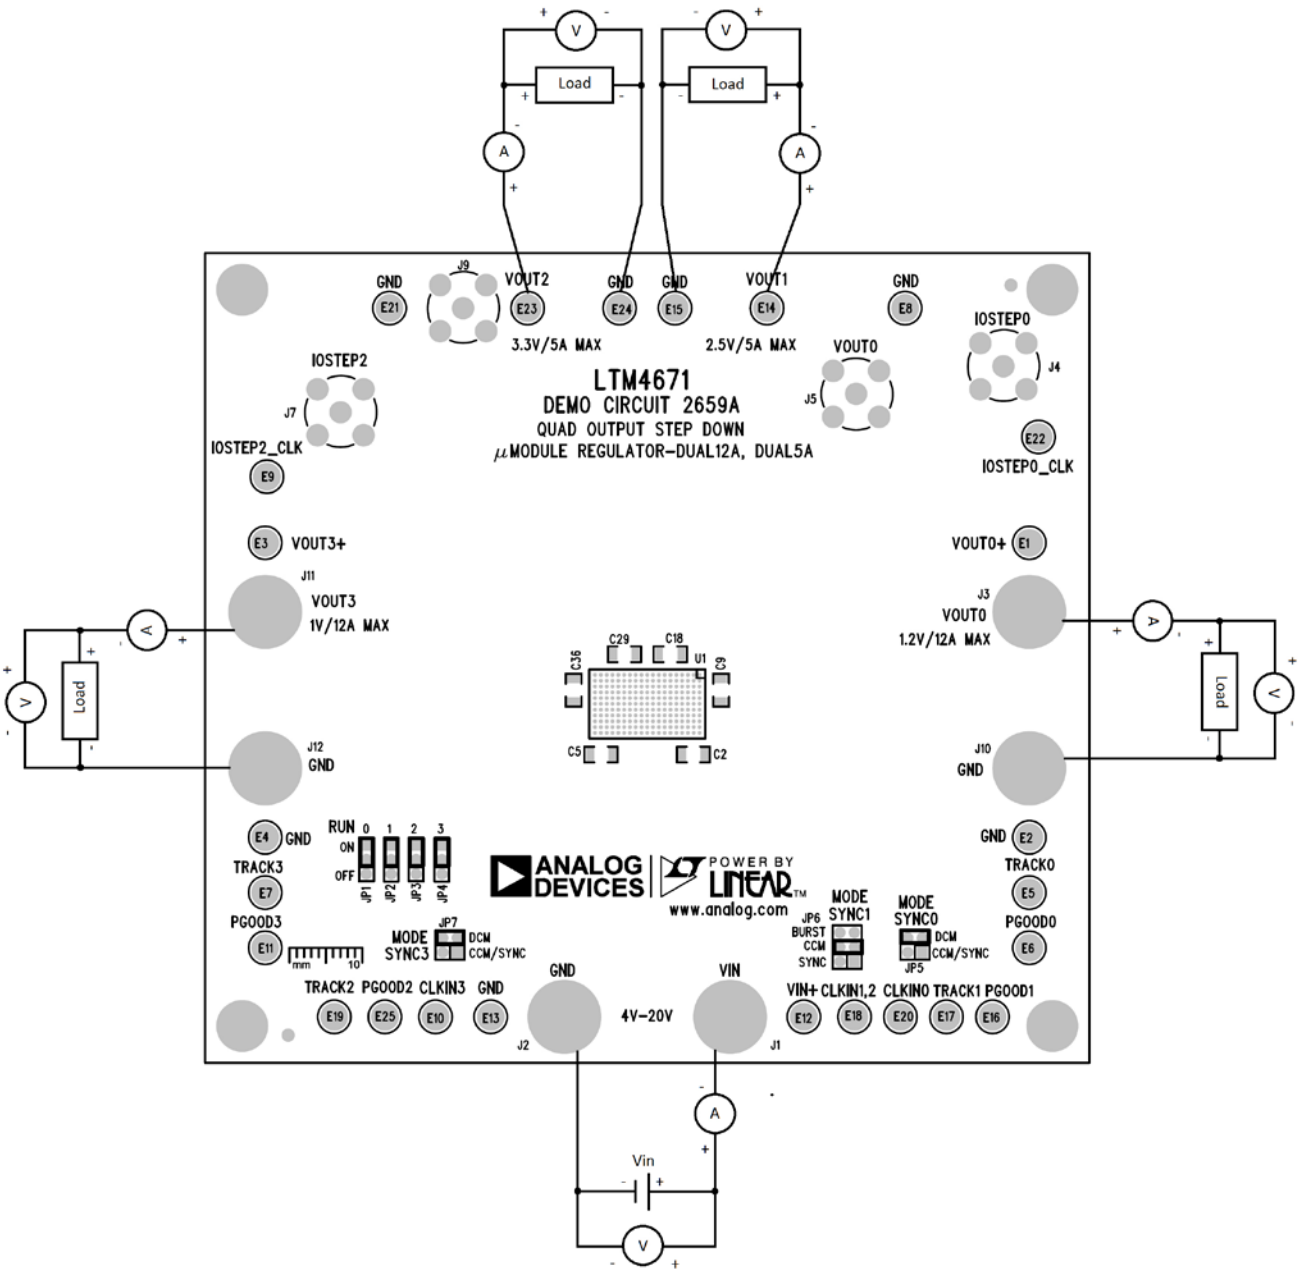

Figure 1. Test Setup of DC2659A
Demonstration circuit 2659A is an easy way to evaluate the performance of the LTM4671EY. Please refer to Figure 1 for test setup connections and follow the procedure below.
3. With power off, connect the loads, input voltage supply and meters as shown in Figure 1.